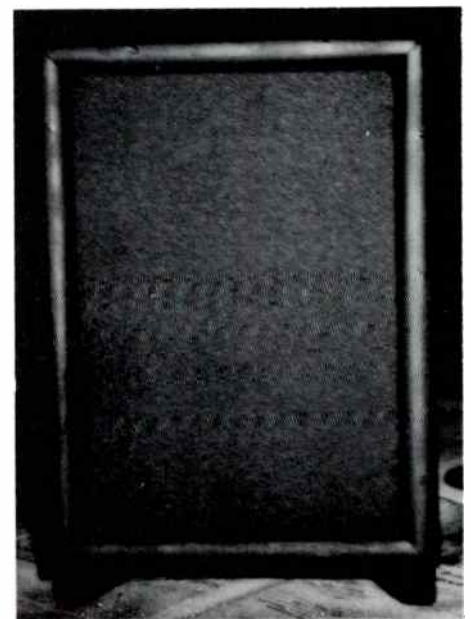

Fig. 2. Finished cabinet with diffuser port.
- 5) The grille which protects the driver does not cover the duct, preventing resistive port loading and the potential rattle problem associated with grille cloth over high velocity ports. *Figure 2* shows this clearly on a finished enclosure.